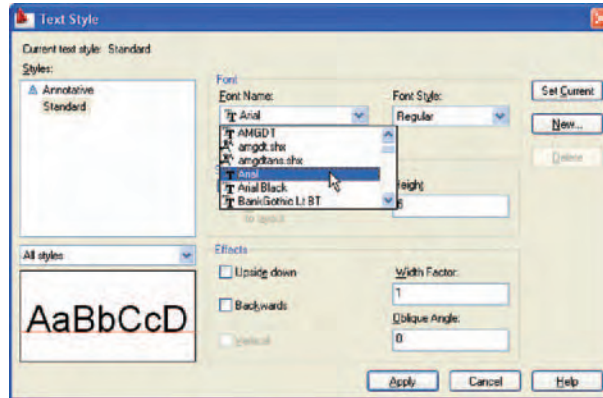

Fig. 4.8 The Text Style dialog
2. The **Text style** dialog appears (Fig. 4.8). In the dialog, *enter 6* in the **Height** field. Then *left-click* on **Arial** in the **Font name** popup list. **Arial** font letters appear in the **Preview** area of the dialog.